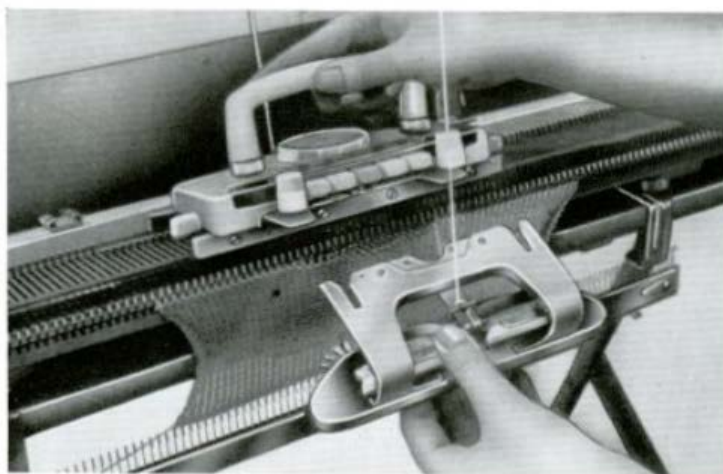

Fig.43
- a. Loosen the thumb screws of the sinker plate. remove the sinker plate from the carriage. (See Fig. 43)